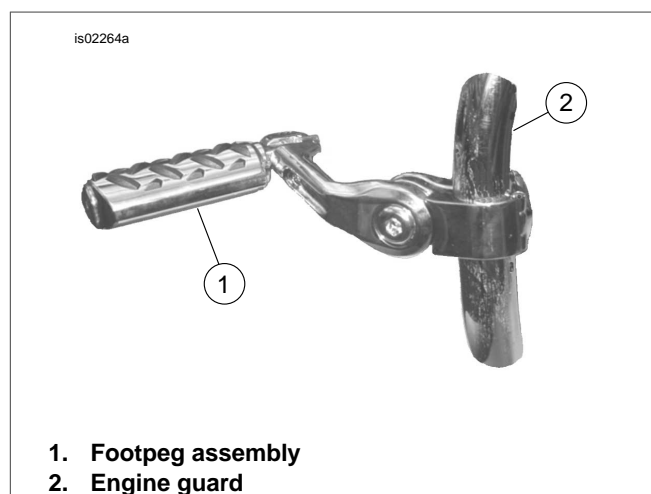
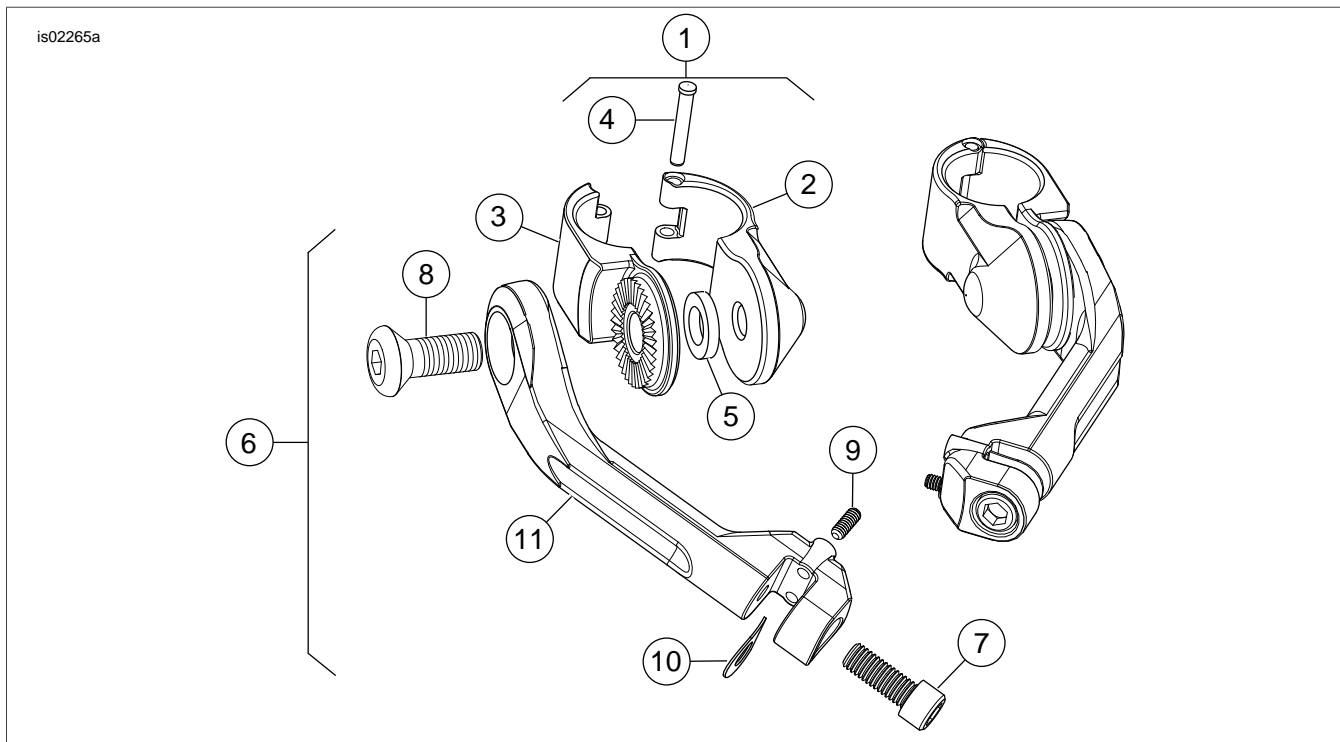

Figure 1. Installed Footpeg Assembly to Engine Guard
Figure 2. Service Parts: Engine Guard Footpeg Mounting Kit
See Figure 2 and Table 1.
2. See Figure 2. Obtain the mounting clamp (1) from kit. Position the clamp halves around the engine guard at the desired height and install with hinge pin head facing upward. The "cogged" face of the clamp should face the extension arm.
3. Obtain the washer (5), screw (8) and one of the angled arms (11) (long or short depending on kit number) from kit. Using the screw, align and install the angled arm with washer (5) positioned between the clamp "ears".
4. See Figure 1. Position the angled arm such that footpeg will pivot upward and toward the rear of the motorcycle. Do not tighten completely at this time.
5. See Figure 2. Obtain the footpeg (sold separately), D-spring washer (10) and screw (7) from kit. Install the D-spring washer so it is positioned inside the footpeg mount (arm) with the square "D" edge toward the inside of the mount. Hold the washer in place and slide the footpeg into position. Apply two or three drops of Loctite 243 to the screw. Install screw to footpeg and tighten to 19 ft-lbs (26 Nm).
7. Position the footpeg assemblies so they are at equal heights and symmetrical. Securely tighten each assembly until it cannot be rotated on the engine guard with reasonable foot pressure but do not exceed 55-60 ft-lbs (75-81 Nm) on screw (8).